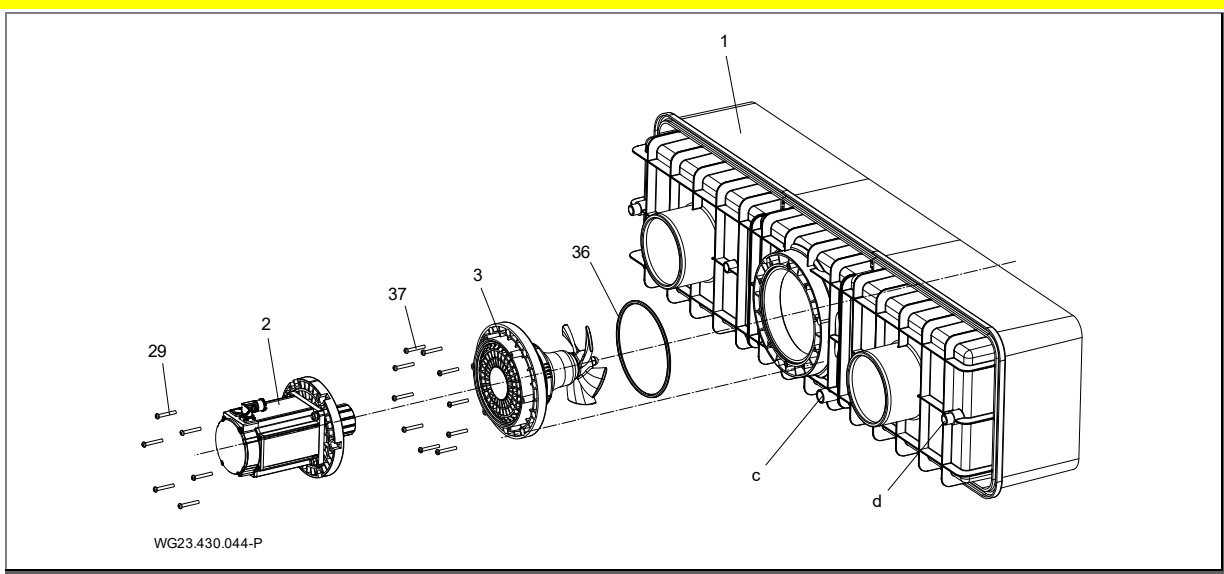

Fig. 16
1. Remove grease from the connection nozzle (d, See "Fig. 16" on page 22) on the plastic housing (1) and the connection socket of the cable protection tube (12) with PVC-U/ABS cleaner.